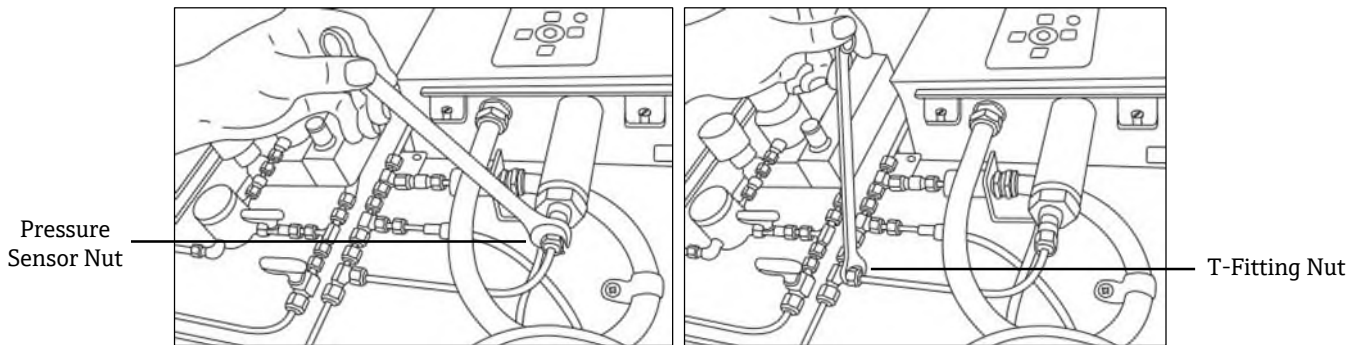

Figure 80. Removing the Swagelok nuts
3. Using the same wrench, loosen the Swagelok nut on the T-fitting. Refer to Figure 80.